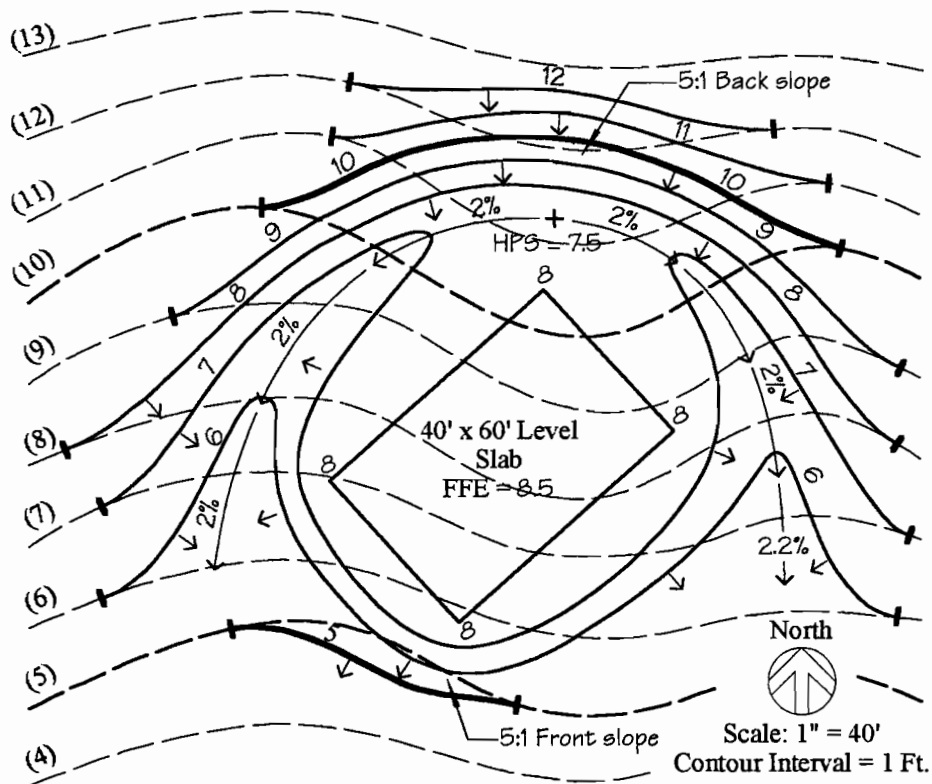

Figure 4-33. Completed Horseshoe Swale
- Step 6.** Grade the back slope and front slope areas to daylight or “catch up” to the existing grades as shown in Figure 4-33. As in the first example, remember that the slope ratio, 5:1, must be
Step 7. Lastly, as always, number all revised contours, add tick marks at the points where they rejoin existing contours, and be sure to draw every 5th contour heavier. Add any other important information, such as grades along the flow line that should be shown. It can also be helpful to add flow arrows. The completed solution for the horseshoe swale around a level plane surface is shown in Figure 4-33.